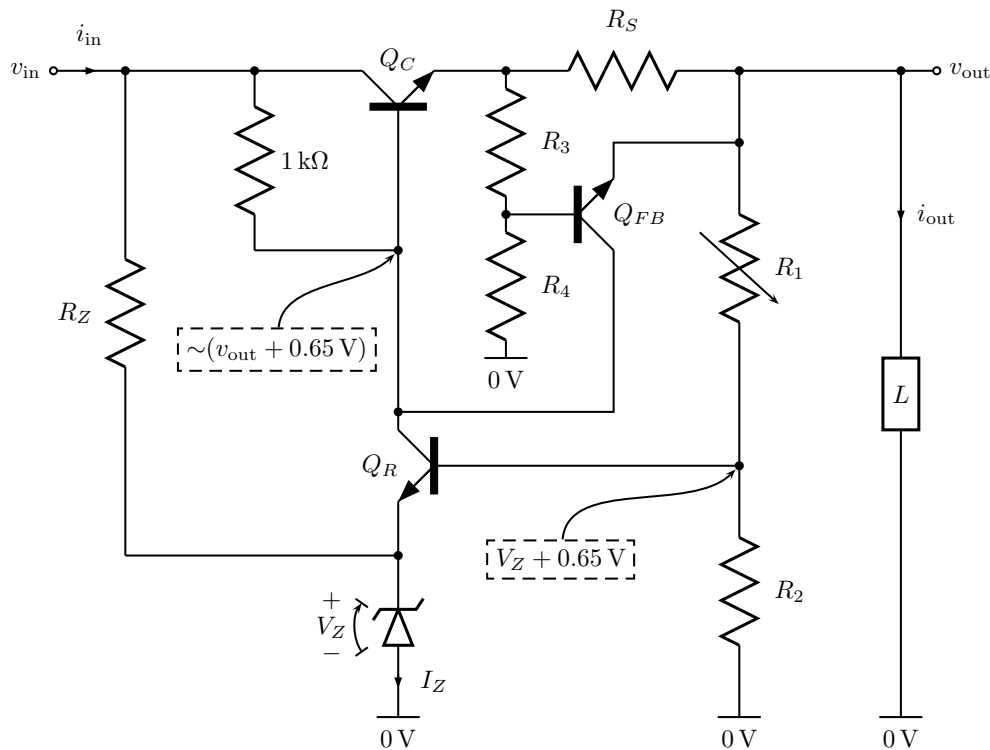

Figure 5.1: Discrete transistor current-foldback adjustable series voltage regulator with load L .
The circuit in Figure 5.1 maintains a constant v_{out} over a range of loads that require sufficiently small current. The Q_{FB} current-foldback transistor replaces the Q_{CL} current-limiting transistor from Section 4.
- Design (i.e., choose components for desired output) and build the regulator in Figure 5.1 from page 9.